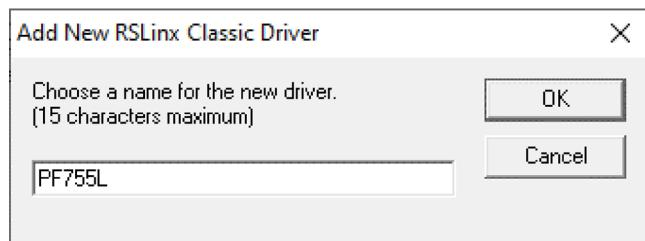

Fig. 25 — Add New Driver
2. Select “Add New” driver and give it a unique name, then click OK. See Fig. 25.